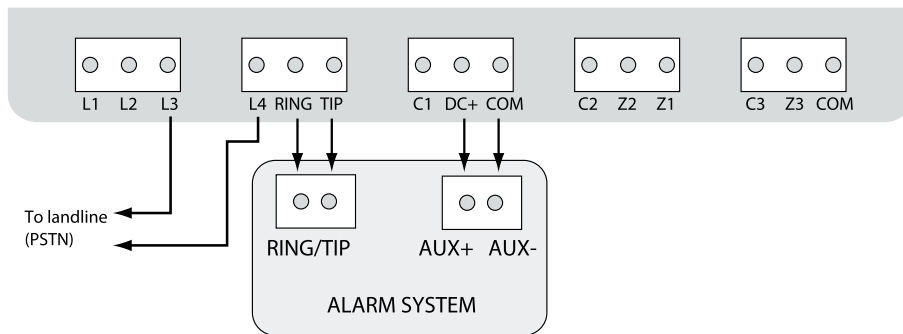

Figure 11
1. Connect the circuit as indicated in Figure 11 – connect telephone contacts of the alarm system RING/TIP to RING/TIP contacts of communicator.